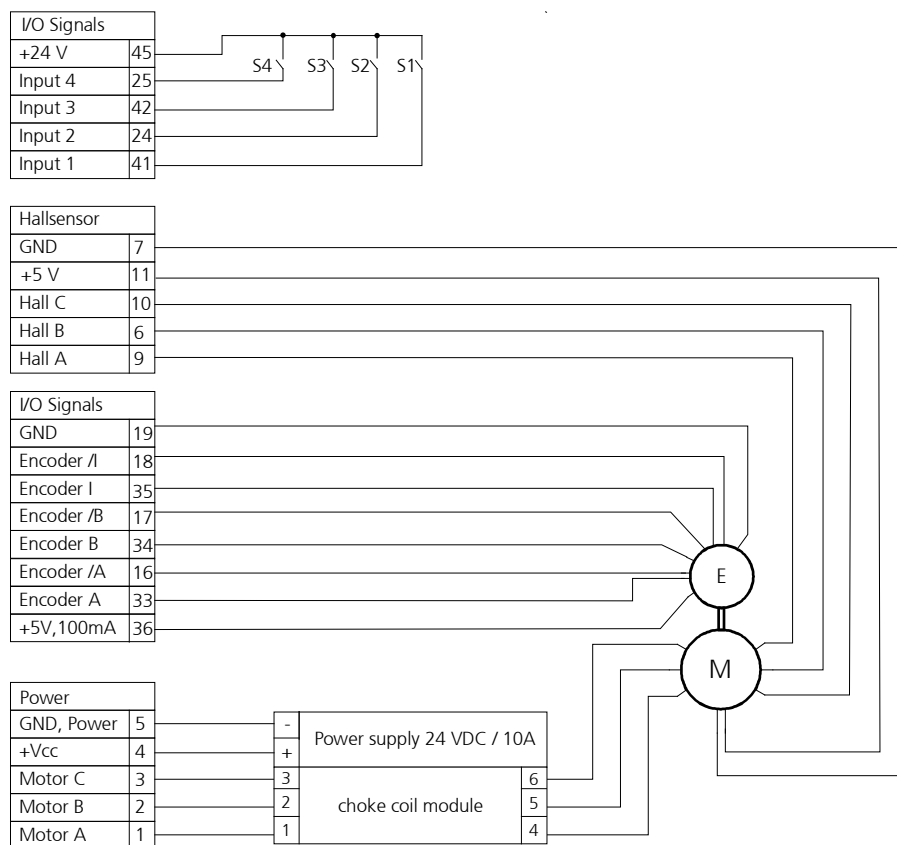

Figure 20
1. Connect the motorcables with a motor control unit (see Figure 20).